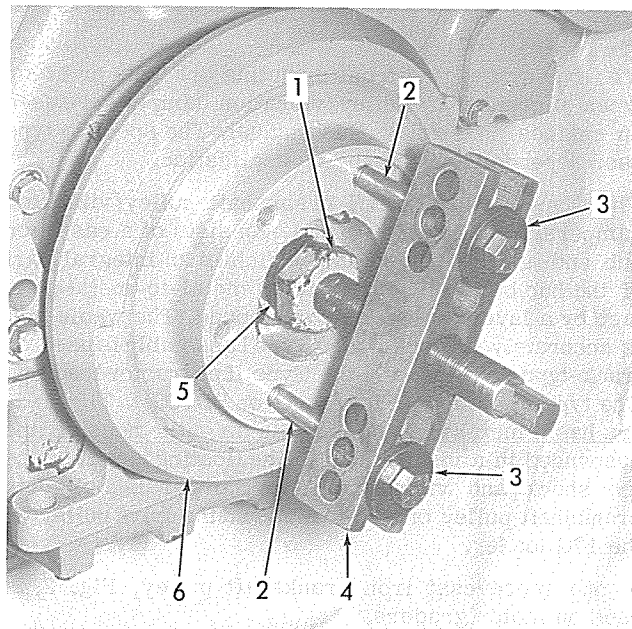

Fig. 5 — Removing Crankshaft Pulley/Vibration Damper (Crankshaft Pulley Removal Similar) (T-71007)
3. Loosen retaining capscrew, Fig. 5 (1), and turn out 1/4" to 1/2".
4. Using puller tools similar to the ones shown in Fig. 5, break pulley loose from crankshaft.
5. Remove puller tools, retaining capscrew, Fig. 5 (1), washer (5), and pulley.